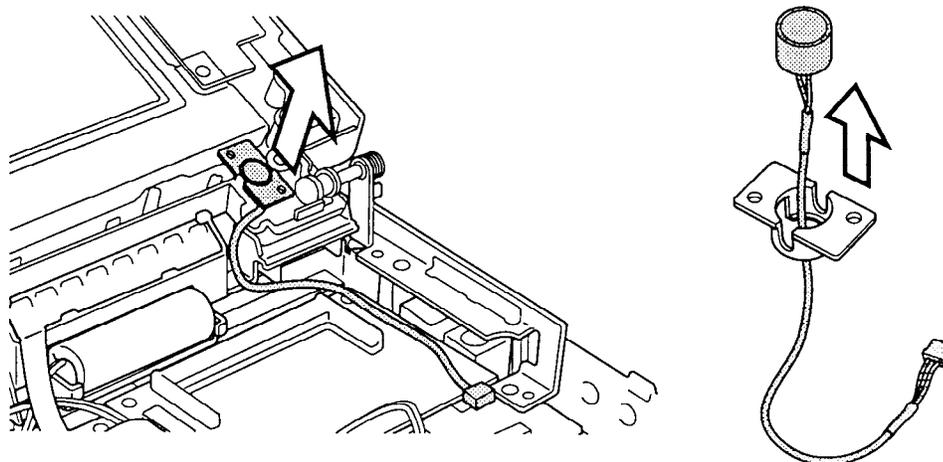

Figure 4-20 Lifting out the internal microphone base
8. Lift out the internal microphone (figure 4-20).
1. Set the internal microphone base on the cover (figure 4-20).